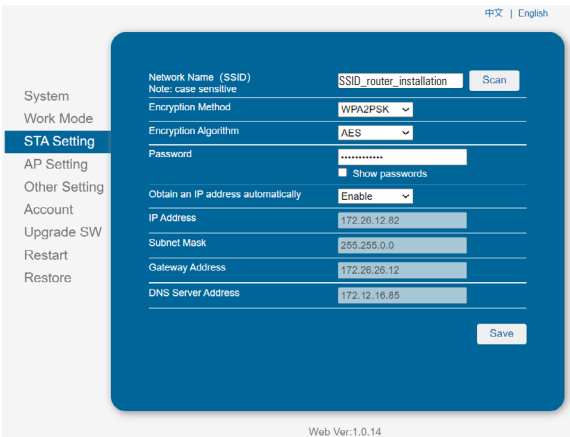

Fig. 45. WiFi setup interface.
6. Next, a pop-up message will appear to remind you to enter the WiFi password, click on "Acceptar". See Fig. 45.